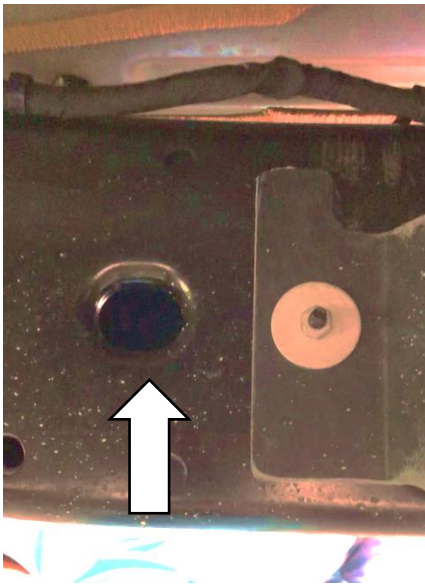

Figure 1
Step 2: Install wire harnesses. Starting on the driver side. From under the Jeep, locate the hole in (fig 1). It is on the inside of the frame rail, just forward of the driver door. This is where the wiring will exit the frame. Insert your wire snake/tape into the hole where the rear light is to be installed (fig 2) until it can be pulled through hole in (fig 1). It is a long distance that is easiest accomplished with two people. Attach rear of A harness pictured in (fig 3) thoroughly using electrical tape. Gently pull the harness through the frame and out of the hole. Repeat this process for the passenger side using B harness.
Note: When routing the wire harnesses up into the engine bay be sure to route in a manner where the wire will not come in contact with the exhaust. We recommend routing behind and along existing shielded wire located above the exit hole on both sides (Fig 1).